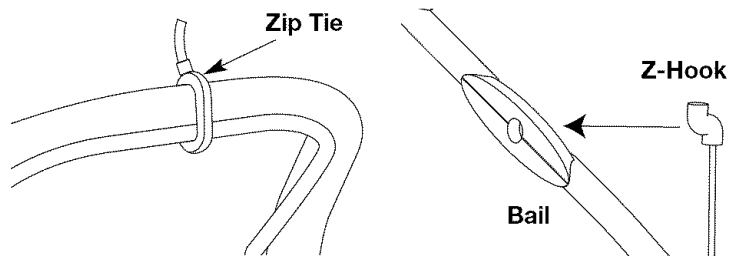

Fig. 5
15. Cut the Zip tie holding the bail to the handle (Fig. 5).
16. Insert the Z-Hook into the hole on the right side of the bail to secure the clutch cable to the bail (Fig. 5).